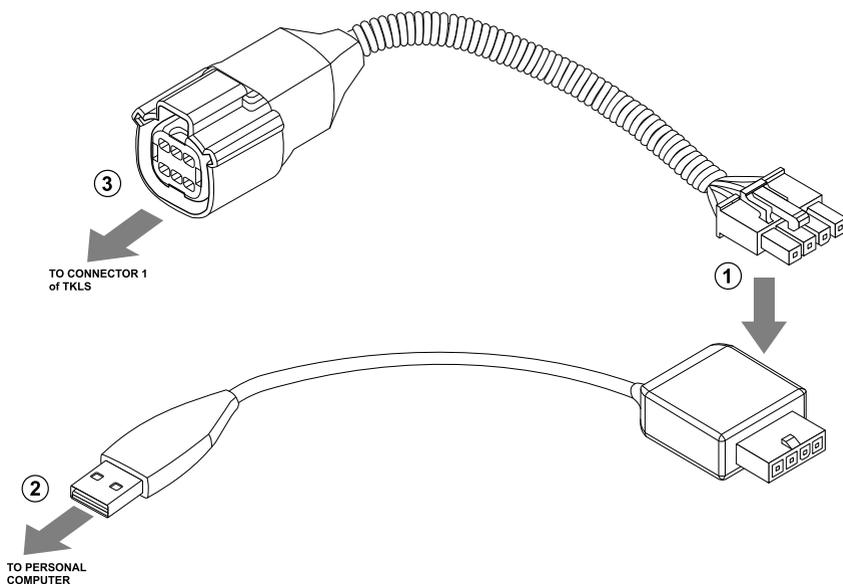

Fig.1. Connection to TKLS sensor.
- connect the 4-pin connector of TKLS-Prog-485 converter to the 4-pin connector of the adaptor (see Fig.1, step 1);
- connect TKLS-Prog-485 to a PC (Fig.1, step 2);
- connect free end of the adaptor (Molex connector) to TKLS sensor (Fig.1, step 3);